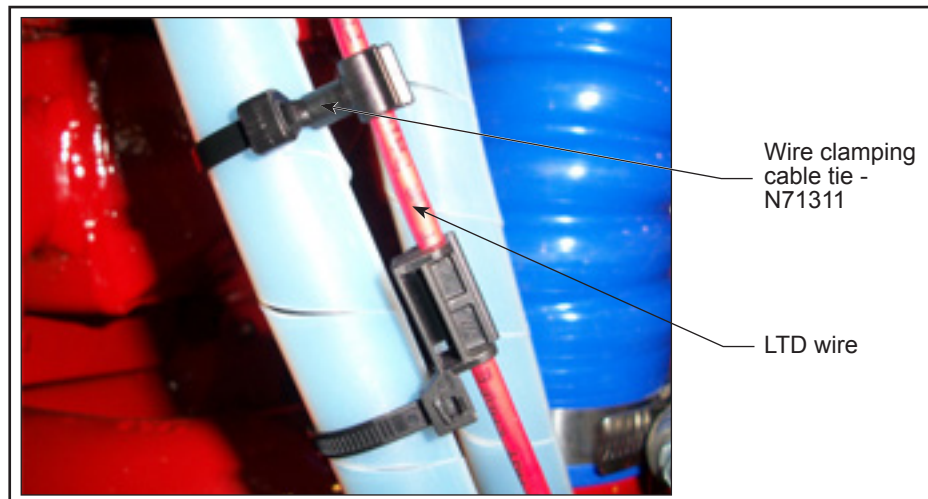

Figure 3 - Installation of Wire Clamping Cable Ties N71311
- 1.4. Systematically remove each tie-wrap (N57564) and replace it with a new wire clamping cable tie (N71311). See Figure 3.